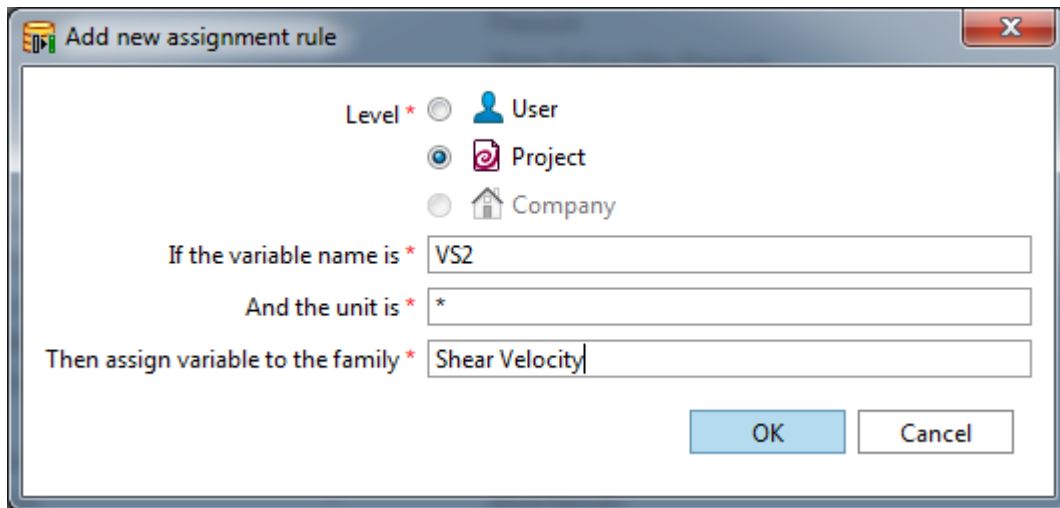

Figure 13: Window for adding new assignment rule.
5. In the Add new assignment rule window that appears (Fig. 13)